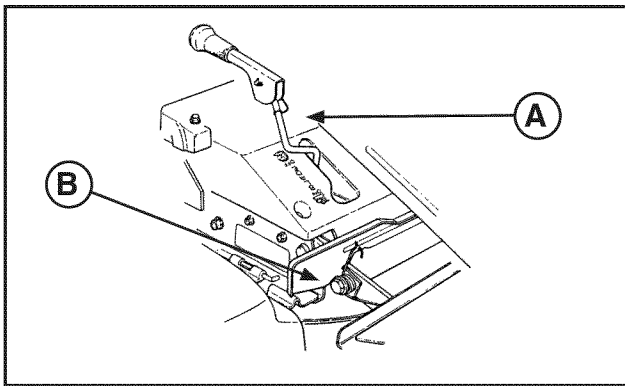

FIGURE 7
1. To engage the blade, move the blade lever (A, Figure 7) to ON position, then depress the blade pedal (B) to hold the blade lever in the ON position.